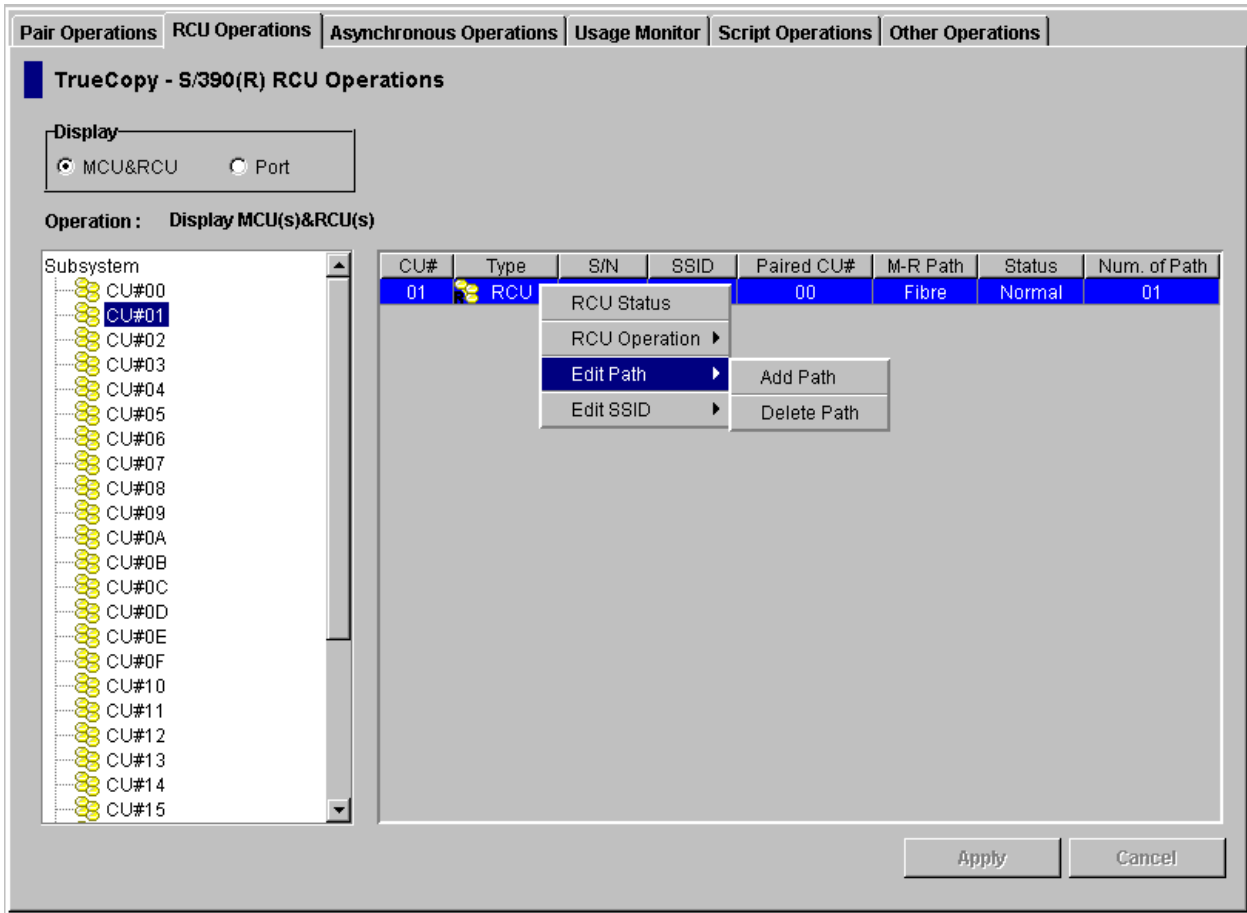

Figure 4.19 Opening the Add Path Panel
3. Right-click on the RCU, select **Edit Path**, and then select **Add Path** to open the Add Path panel (see Figure 4.19).